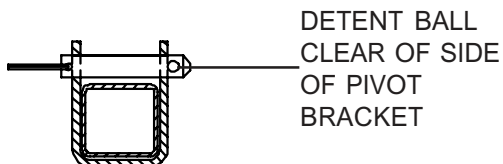

Figure 2-12. Correct Position of Locking Pin
1. **Guardrail Locking Pin W/Lanyard** - To fold the guardrail system down, remove the locking pin at each pivot point and lower each guardrail. To raise the guardrail system, swing up each guardrail and lock in place with the locking pins ensuring that the detent ball of each pin is clear of the side of the pivot brackets. (Figure 2-12.)